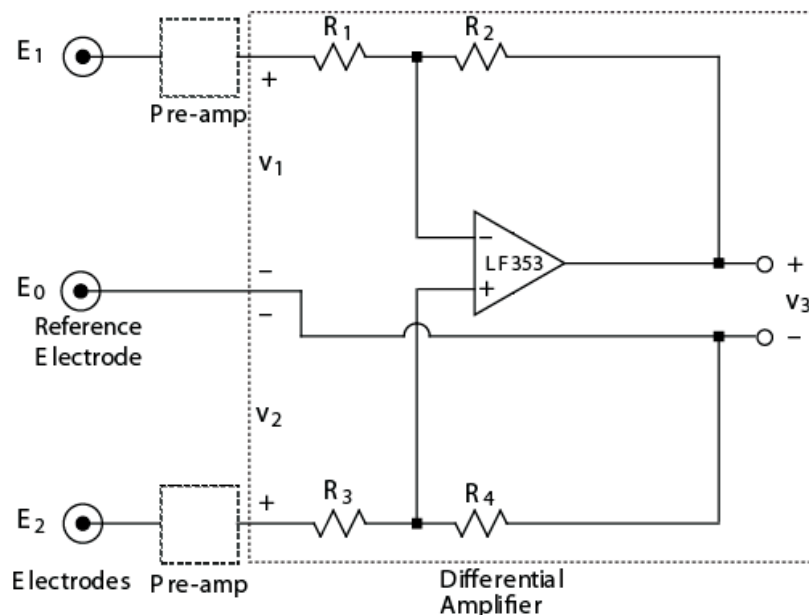
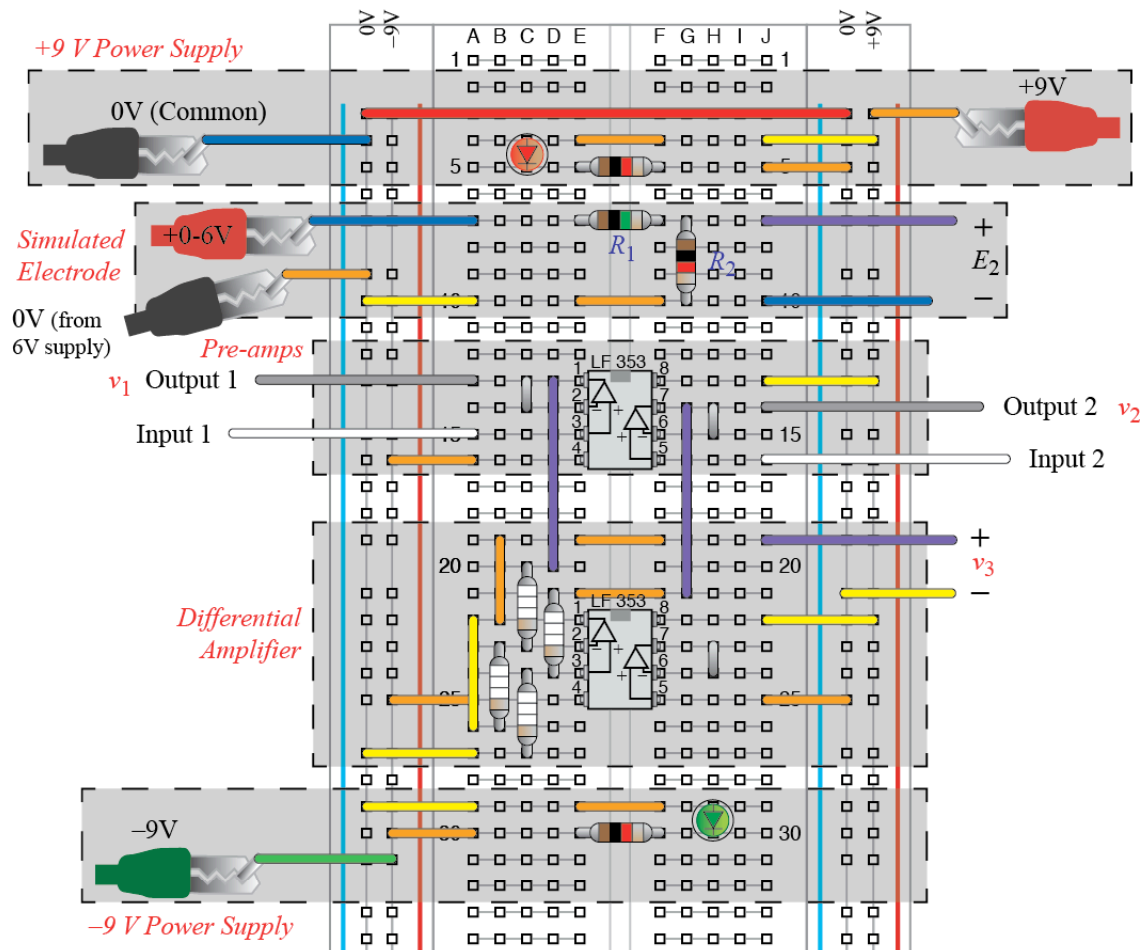

Figure 11. Schematic diagram of differential amplifier.
Figure 14. Complete EMG circuit.
In this part of the lab, you will use the voltage-divider formula to derive an expression for the output voltage of the differential amplifier circuit shown in Fig. 11. Note that the power supplies for the op-amp are omitted from the schematic, but there are positive and negative power supplies that supply current that flows into or out of the op-amp's output.
1) Using the layout in Fig. 14, draw a schematic diagram of the complete EMG circuit. The complete EMG circuit layout is shown in Fig. 14 but with resistor values missing. Compare your result with Fig. 11 to determine which resistor is which in the differential amplifier. Also, include the circuit for the unused fourth op-amp on your schematic. What does this circuit do?